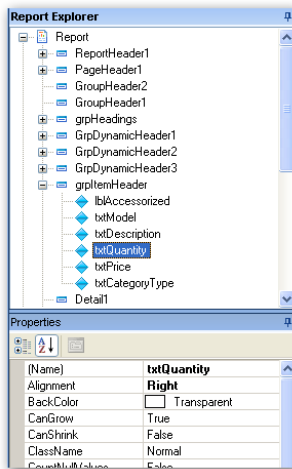

Figure 43
- Selecting an item name in the “Report Explorer Window” will set it to the selected item in the Properties Window (Figure 43).